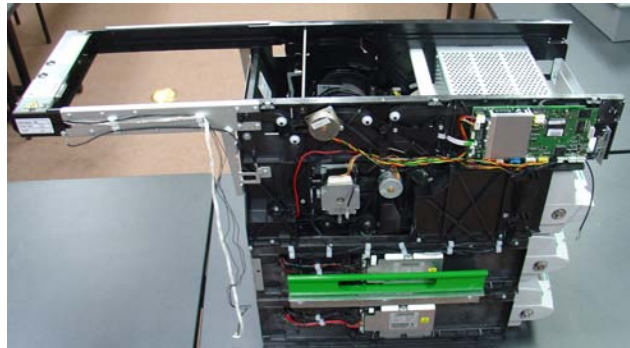

Figure 3. Remove top/side panels.
3. Disconnect the ground wires from the side panels. Remove the top and side panels from the mechanism (Figure 3).
4. Disconnect the Bundle Output Unit (BOU) wires from the Central Machine Controller (CMC) shown in Figures 3 and 4.